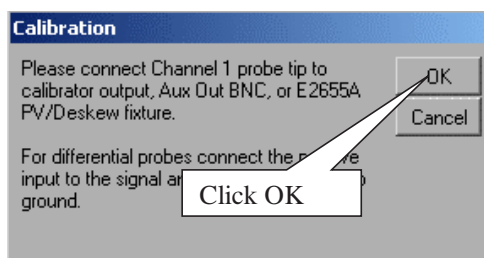

Figure 294 Calibration Window.
- 6 Referring to Figure 294 shown below, perform the following steps: